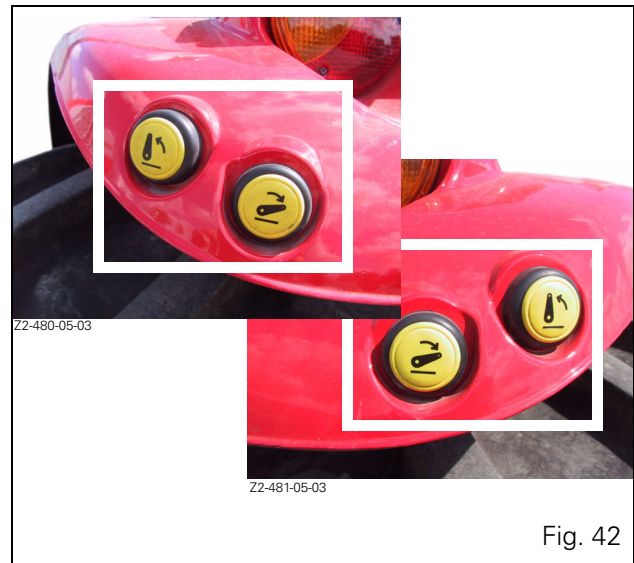

Fig. 42
To use the external controls (Fig. 42) the Lift / Lower selector switch (E) must be in Neutral or Lower position.